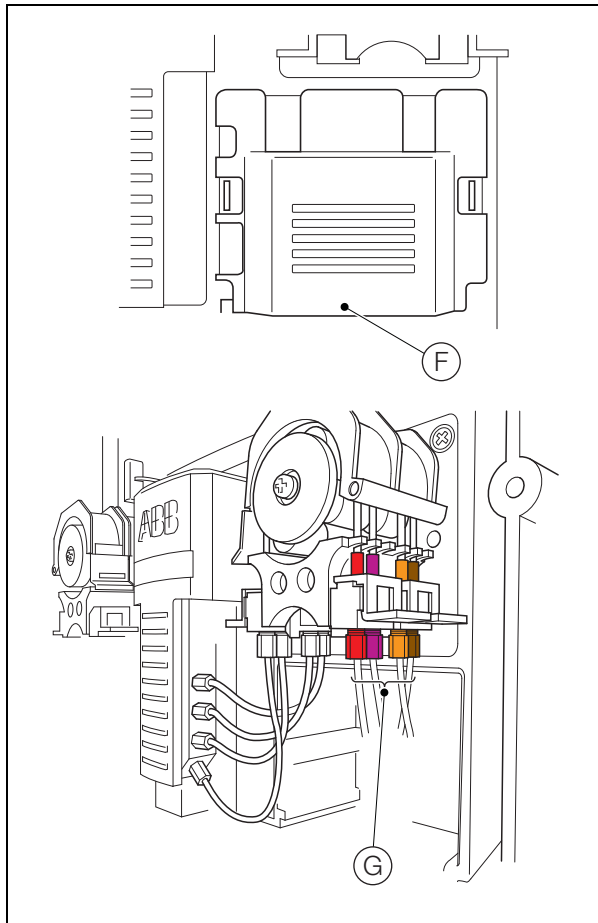

Fig. 4.3 Disconnecting the Reagent Tubes
4. Referring to Fig. 4.3:
- a. Remove the right-hand cover (F).
- b. Disconnect the 4 reagent tubes (G) from the peristaltic pump connectors.